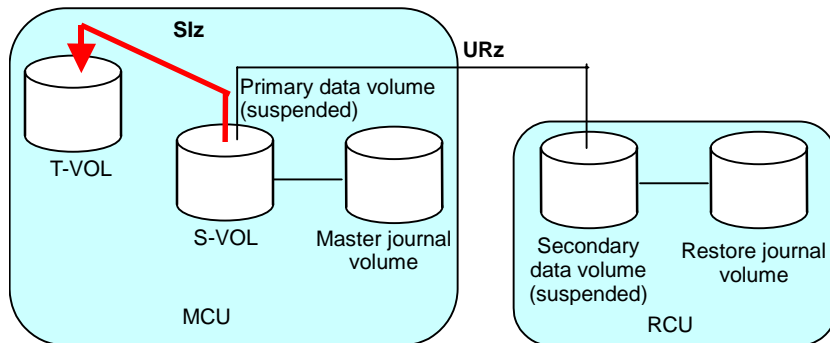

Figure 3-16 Restoring a Siz S-VOL - Step 5
5. Execute the Business Continuity Manager **YKMAKE** command on the Slz pair to perform copying in the reverse direction (see Figure 3-16).